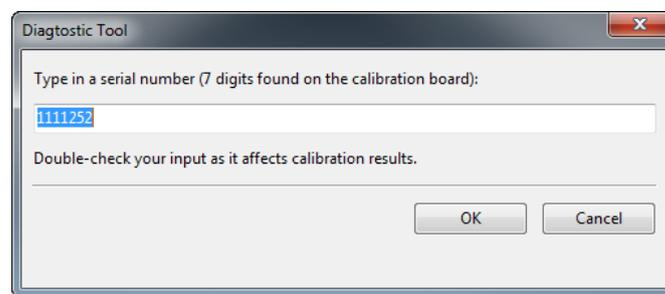
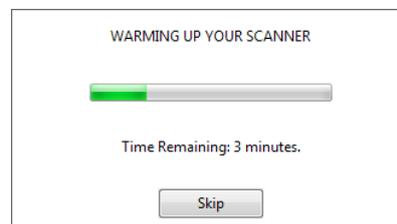

Figure 158: Entering serial number of calibration board.
Figure 159: Warming up the scanner.
6. Click *Start calibration*. A dialog box will open (see Figure 158); enter the serial number of your calibration rig (it appears on the board). If the scanner temperature is outside the optimal range—for example, you just connected the device to a power outlet—the tool will notify you of this condition (see Figure 159). We advise against clicking *Skip* and instead recommend waiting for the Artec Spider to reach its optimal temperature.